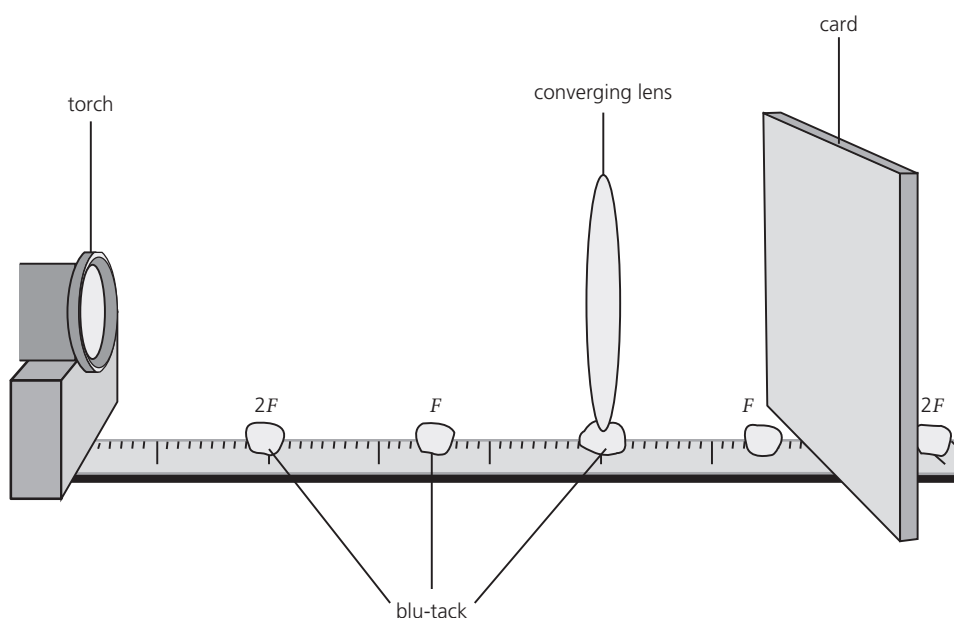

Figure 1 (not to scale)
- 1 Set up the apparatus as shown in Figure 1. Use some blu-tack to hold the lens vertically upright at the 50 cm mark of a metre ruler resting horizontally on the bench. Draw an arrow on a small piece of thin paper and attach this paper to the front of the torch to act as an object.